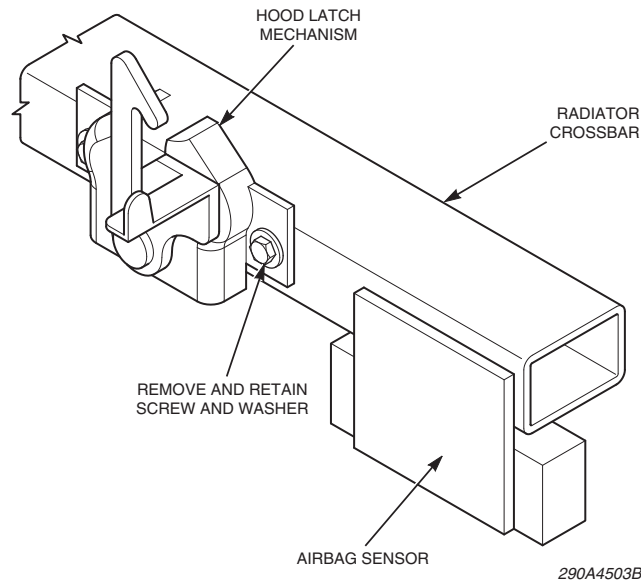

Figure 2: Hood latch area
4. Remove and retain the bolt and washer on the right (driver) side of the hood latch mechanism (*Figure 2* on page 4).